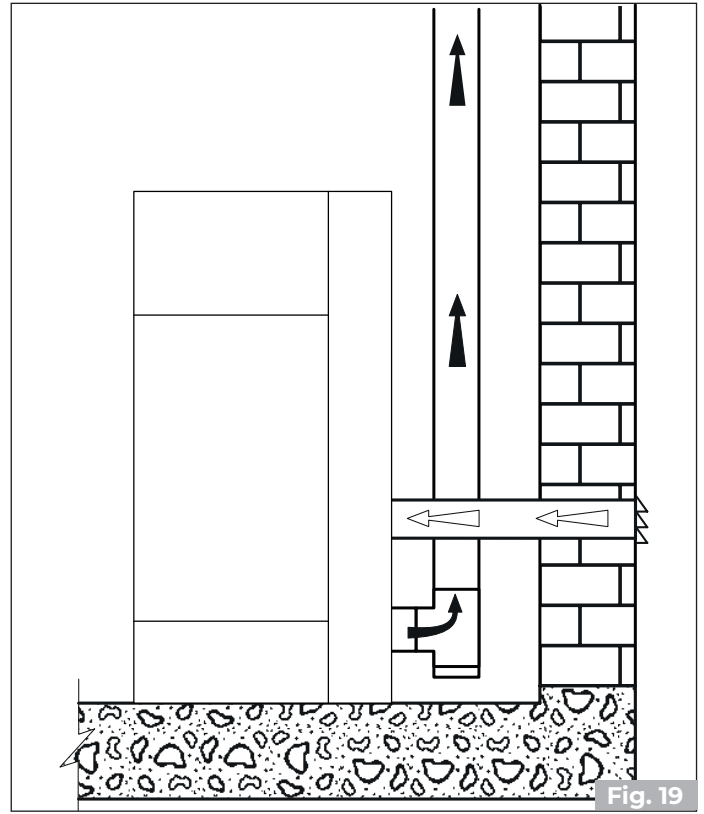

Fig. 19
- to connect the combustion air inlet of the appliance to the air intake using a special pipe (**Fig. 17 - Fig. 19**).